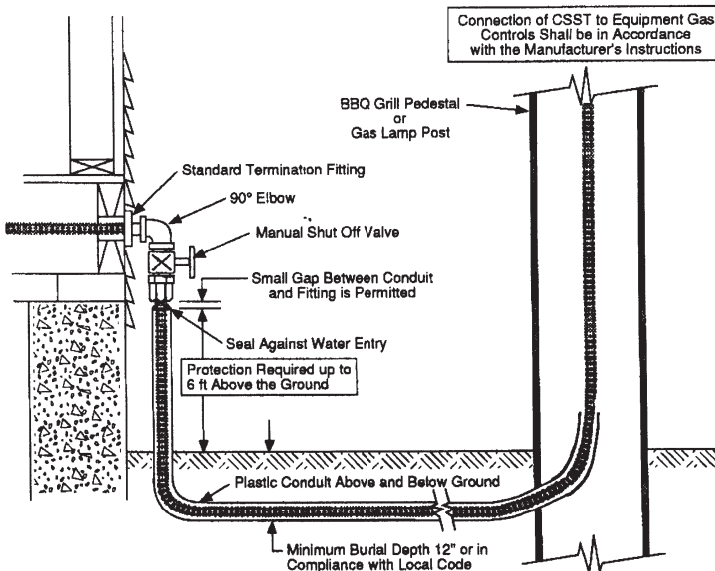

Figure: 4-39
4. Yard mounted lights shall be connected to the **TracPipe® CounterStrike®** system as shown in Figure: 4-39- All piping installed below grade shall be protected by non-metallic, water-tight conduit or **TracPipe® PS-II** for underground use. Exposed ends of the conduit shall be sealed against water entry.